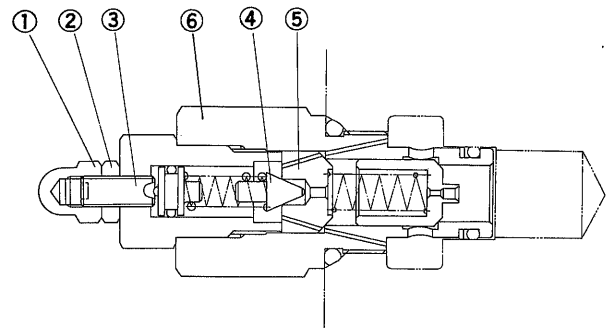

Fig. 114
- 3) Inspect seating surfaces of valve seat ⑤ and body ⑥ for scores or excessive wear. Also check for fatigued springs. Replace if abnormal. (Fig. 114)
Remove cap nut ① and loosen lock nut ②. Turn adjust bolt ③ so as to allow correct valve opening pressure (Fig. 114). To measure pressure, remove plug ④ and connect pressure gage there. (Fig. 114, Fig. 115)